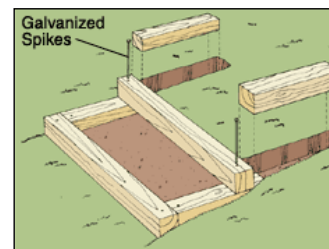

Figure 5
STEP 8. To build the next step, measure from the front of the first riser timber and mark the step depth on the side timbers with a pencil. Align the front of the second step riser timber with the pencil lines on the side timbers of the step below. Secure the riser timber to the side timbers using 12" galvanized spikes (figure 5).
STEP 9. Excavate for the side timbers and set the side timbers. Anchor the side timbers by driving the steel rebar through the drilled holes on the end of each timber into the ground (figure 5).